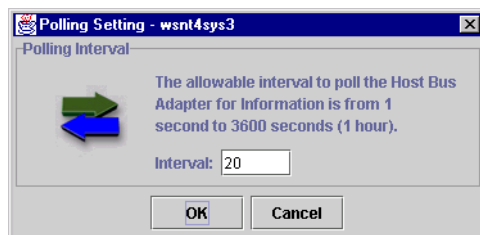

Figure 6-8. Polling Setting Dialog Box
3. The **Polling Setting** dialog box displays (see figure 6-8). The name of the host displays in the title bar.